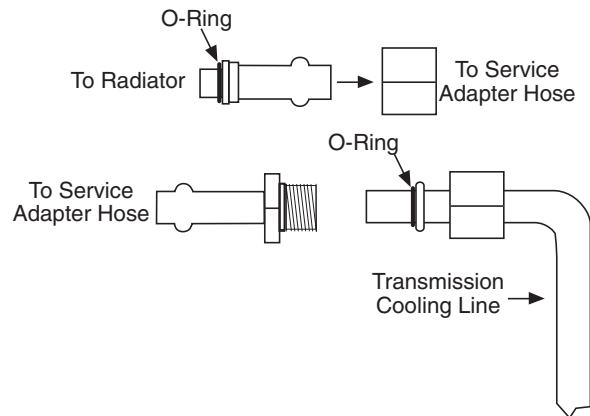

Figure 58. FIT408 Installation on Ford Contour
3. Attach the male portion of FIT408 to the radiator (see Figure 58).